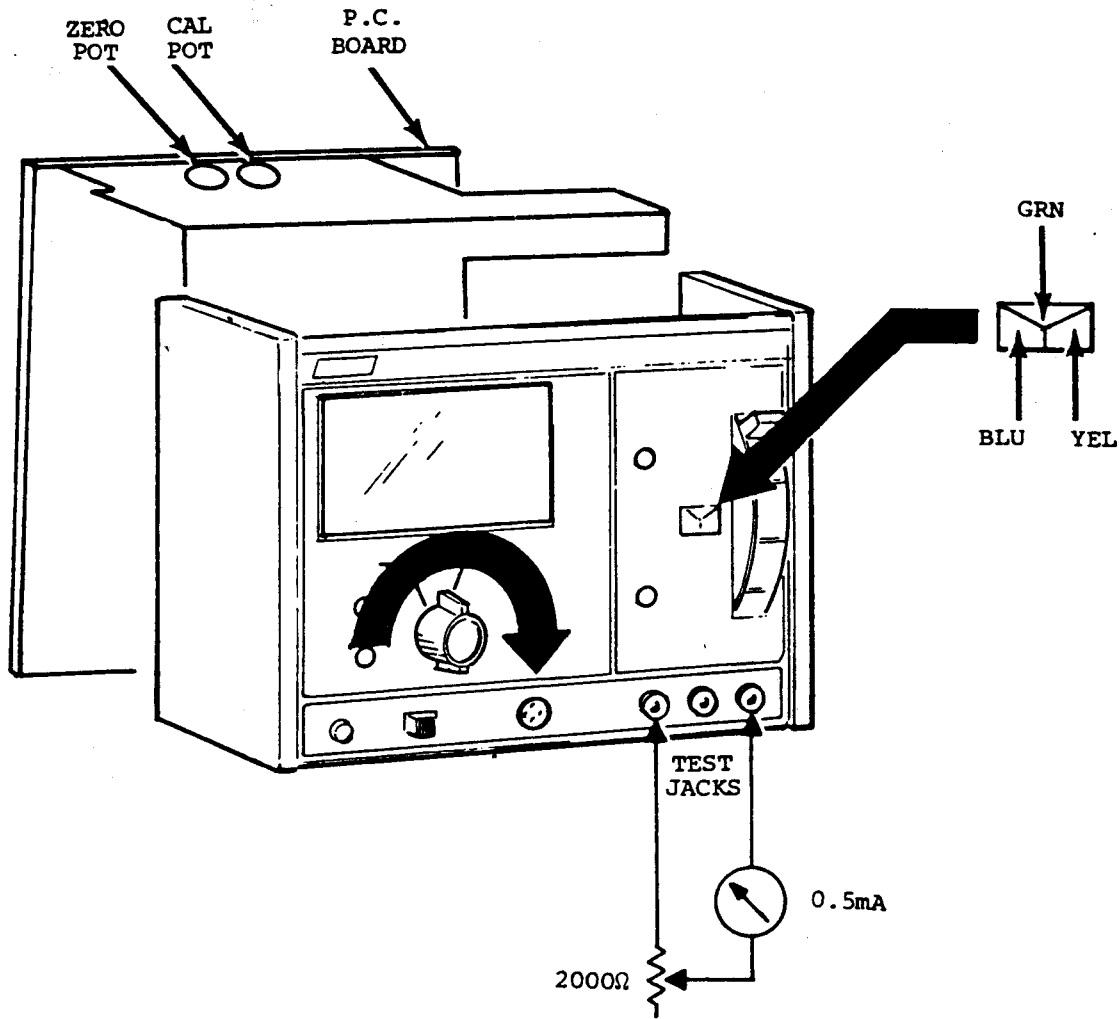

Fig. 3. Location of calibrating controls.
- c. To calibrate the meter, put the TEST switch in the uppermost (green) position. Connect a  $2000\Omega$  potentiometer and a 0-5mA meter in series from the yellow jack to the blue jack as in Fig. 3. Then, while holding the FUNCTION switch in the LEAKAGE position, adjust the potentiometer for 5 milliamperes in the external meter. If the meter on the 520 panel does not read full scale, adjust the "CAL" control through the right side hole in the top of the chassis. The CAL pot is identified on the P.C. board just below the adjustment hole. See Fig. 3.